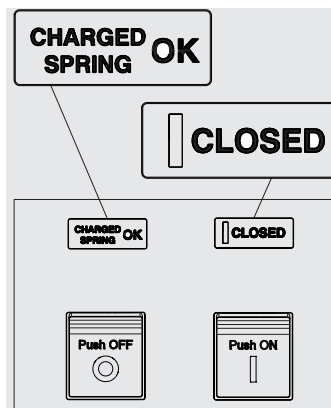

Figure 51
4. Circuit-breaker closed with springs charged (see Figure 51). This state occurs when after closing (see step 4 - Figure 51) the springs are recharged manually or automatically by the gearmotor (if provided).